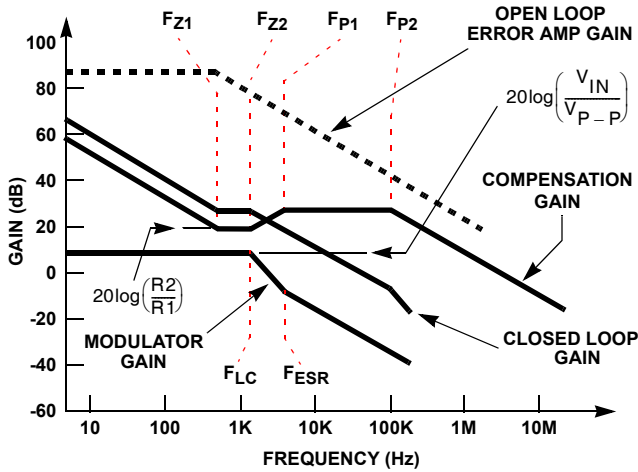

FIGURE 9. ASYMPTOTIC BODE PLOT OF CONVERTER GAIN
Figure 9 shows an asymptotic plot of the DC-DC converter's gain vs. frequency. The actual Modulator Gain has a high gain peak dependent on the quality factor (Q) of the output filter, which is not shown in Figure 9. Using the above guidelines should yield a Compensation Gain similar to the curve plotted. The open loop error amplifier gain bounds the compensation gain. Check the compensation gain at F_{P2} with the capabilities of the error
amplifier. The Closed Loop Gain is constructed on the log-log graph of Figure 9 by adding the Modulator Gain (in dB) to the Compensation Gain (in dB). This is equivalent to multiplying the modulator transfer function to the compensation transfer function and plotting the gain.